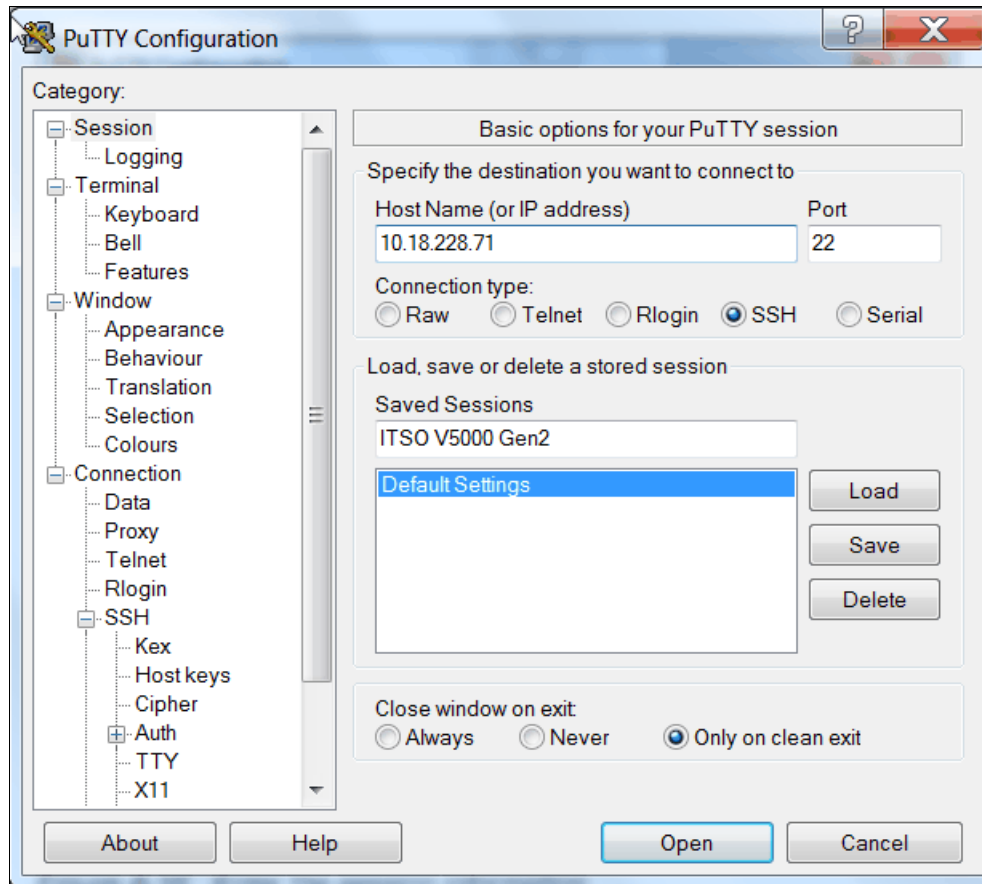

Figure A-17 Enter the session information
5. In the Category pane, click **Session** to return to the PuTTY Configuration window Basic options for your PuTTY session view (see Figure A-17).